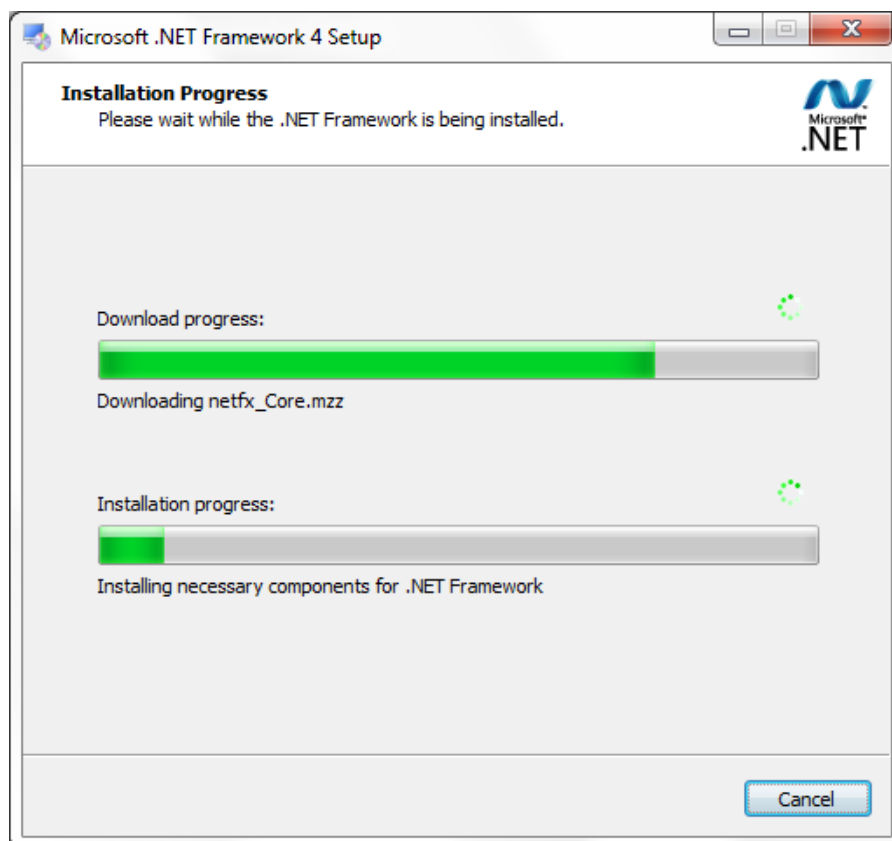

Figure III.1.14: Installation of Microsoft .NET 4.0.
- Installation is in progress. See Figure III.1.14.